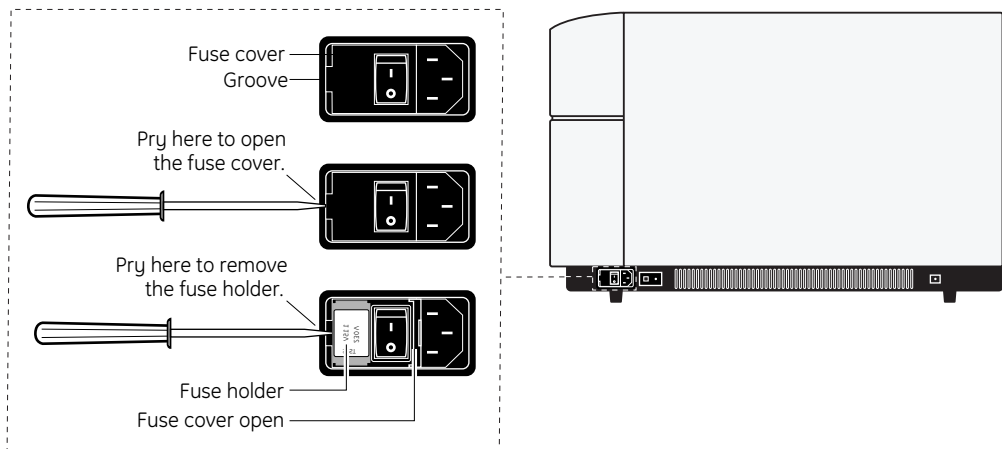

Fig 13-6. Opening the fuse box.
- 2 Place the end of a small flathead screwdriver into the groove to the right of the fuse box and pry open the fuse box (fig 13-6).